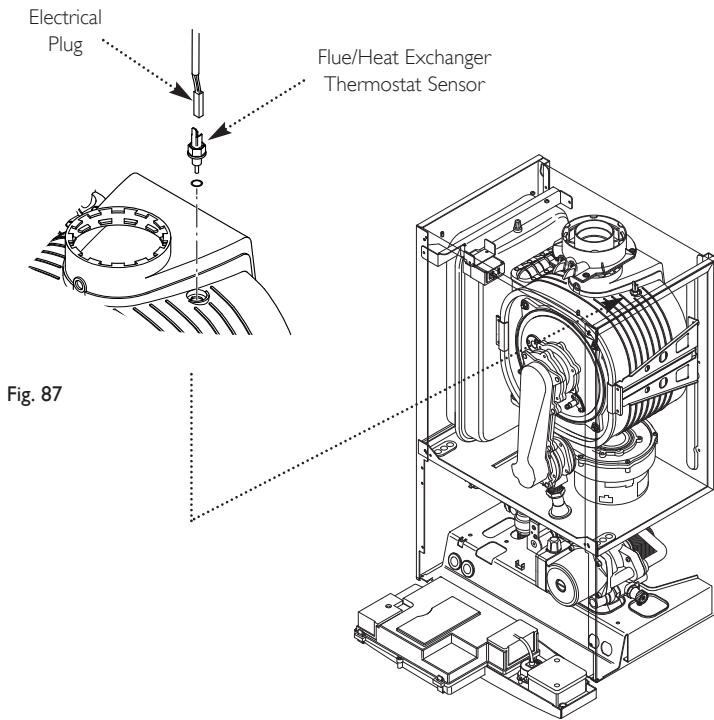

Fig. 87
14.8 Flue/Heat Exchanger Thermostat Sensor (Fig. 87)